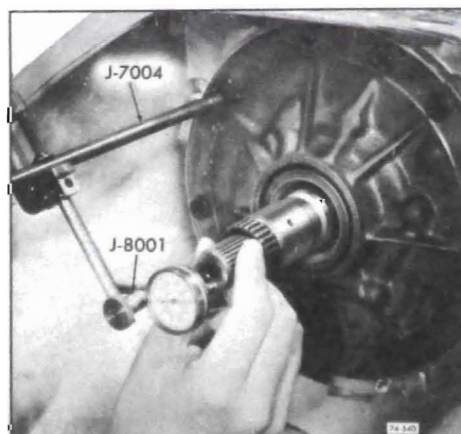

Figure 76-540
b. Install a 5/16-18 threaded slide hammer bolt or J-7004, into bolt hole in pump. See Figure 76-540.
c. Mount dial indicator on the rod and index indicator to register with end of turbine shaft. See Figure 76-540.